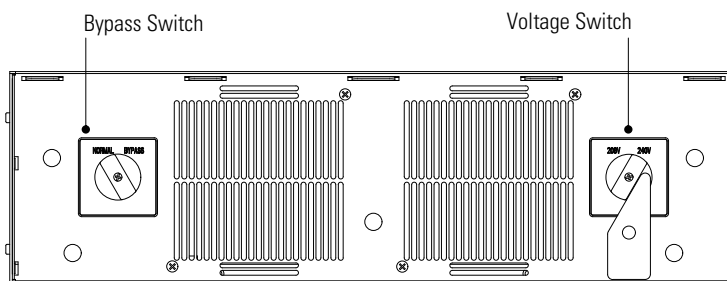

Figure 12. PPDM (with Front Cover Removed)
2. Verify that the bypass switch on the PPDM is in the NORMAL position (see Figure 12).
3. **Changing the PPDM voltage switch setting.** All high voltage outlets, except the L14-30, use the UPS output voltage. The L14-30 and all low voltage receptacles use the PPDM transformer, and the voltage switch determines the voltage. See Table 3 for a complete list of PPDM input/output voltage settings. Figure 12 shows the voltage switch.